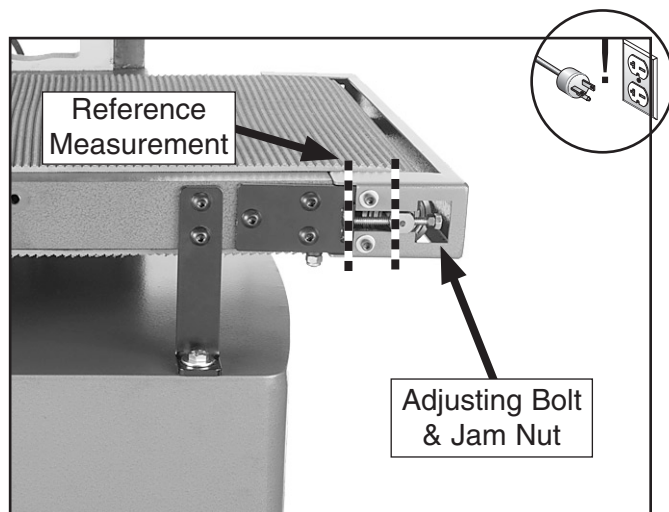

Figure 33. Conveyor belt adjusting bolts (one side shown).
1. Take the reference measurement shown in **Figure 33** on both sides of the conveyor.
2. Determine which side the conveyor belt is tracking towards, and tighten the adjustment bolt (see **Figure 33**) on that side until the belt tracks in the opposite direction.